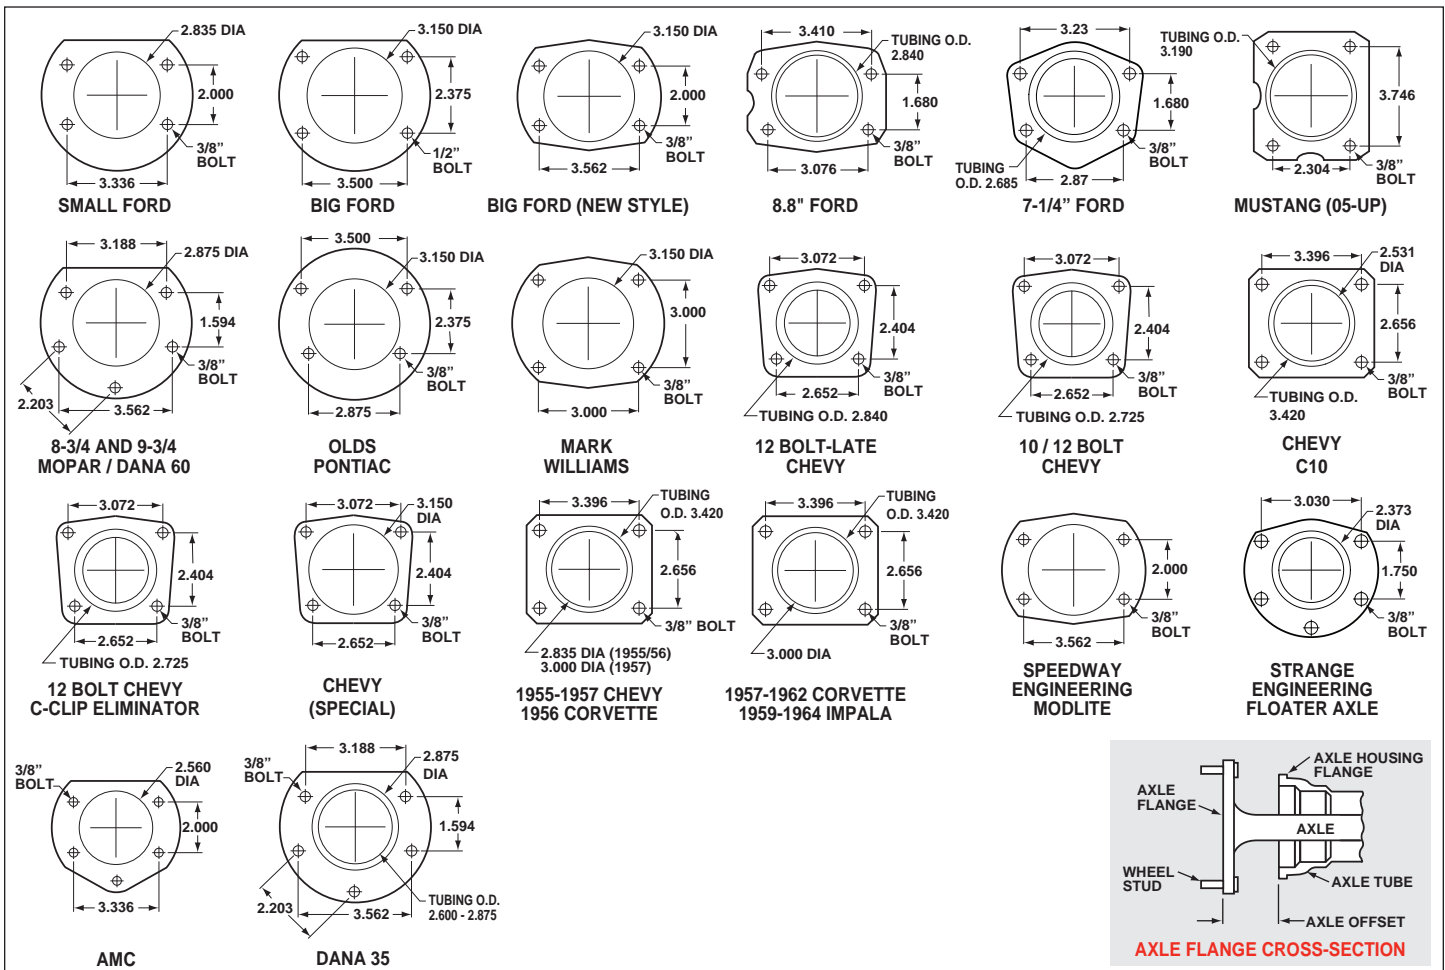

Figure 5. Rear Housing Flange Chart and Axle Flange / Offset Cross-Section
- Make sure this is the correct kit to fit the axle housing flange, not necessarily the rear end make. Many times aftermarket manufacturers put a different make of axle housing flange on the stock rear end housing (Figure 5). Example; Big Ford rear ends with Olds-Pontiac flanges, therefore, an Olds-Pontiac rear disc brake kit would be the correct kit to order. Also, shock clearance may be a problem. They may have to be modified and/or relocated to clear the Wilwood kit after final assembly.
- Dimension from wheel side of axle flange to wheel side of axle housing flange (see Figure 5, lower right hand corner). This dimension is critical to ensure proper alignment of the rotor to the caliper, and should match offset given in the kit description. **NOTE:** Left side only; leave OEM shim stack in place against axle housing when measuring offset.